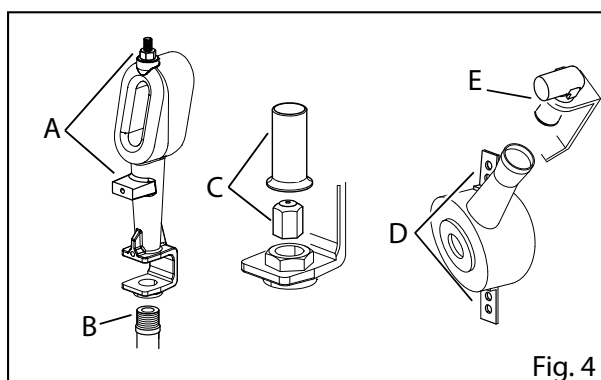

Fig. 4
- Loosen the mount to the support and the supply connection (Fig. 4/A+B)
- Dismantle the Venturi and nozzle from the burner to be replaced (Fig. 4/C)
- Unscrew the fixing screws of the burner (Fig. 4/D) and the connection to the supply (Fig. 4/E)